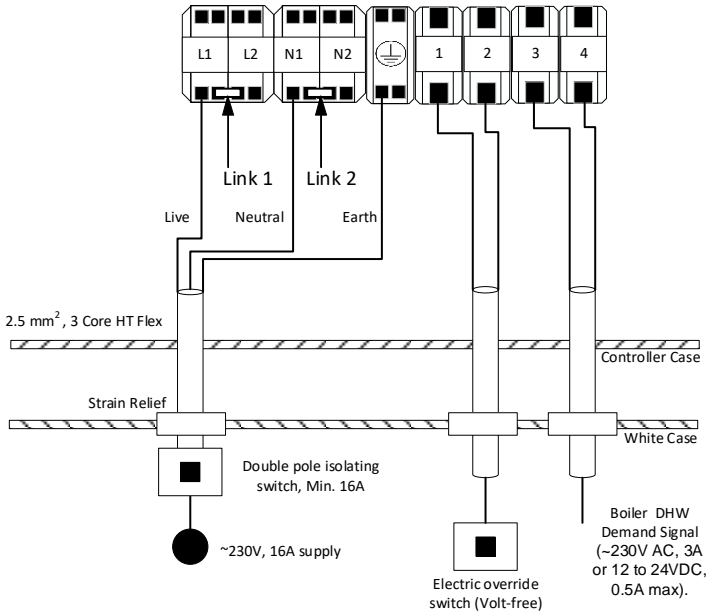

Figure 12.2: Thermino i system wiring
- Wire a 2 core PVC insulated cable (minimum 0.75mm² CSA, 24 x 0.2mm according to BS 6500) from a 2-pole Volt-free contact switch, run the wire into the appliance via the appliance case cabling grommets and then into the control box housing through the hole available. Secure the cables in Terminal T1 & T2 independently (Figure 12.2).
- Wire a 2 core PVC insulated cable (minimum 0.75mm² CSA, 24 x 0.2mm according to BS 6500), the heat battery controller in this application acts as Domestic Hot Water thermostat. The cable will act as a Domestic Hot Water control signal from the heat battery controller terminals T3 & T4 into the appropriate terminals of the heating system wiring centre (please refer to Boiler Installation manual). Please run the wire into the heat battery appliance via the appliance case cabling grommets and then into the control box housing through the hole available. Secure the cables in Terminals T3 & T4 independently (Figure 12.2). The control signal load must be no greater than (~230V AC, 3A or 12 to 24VDC, 0.5A max).